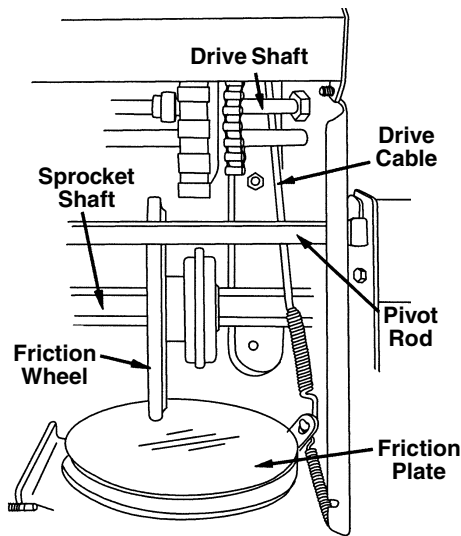

Figure 22
- With the traction drive control *released*, make sure that there is clearance between the friction wheel and the friction plate in all positions of the shift lever. See Figure 22.